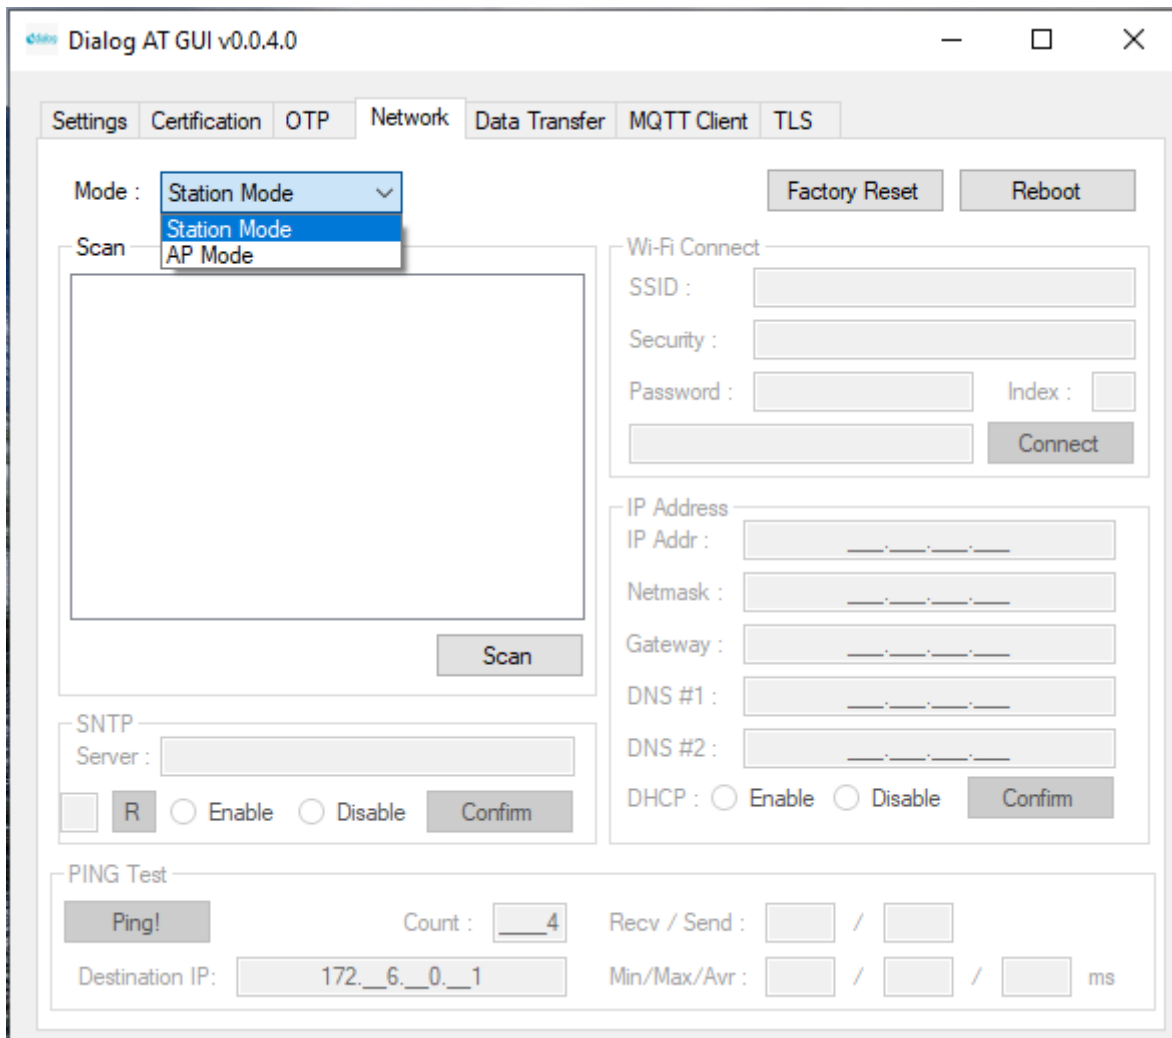

Figure 15: Setup Window - Station Mode
- o The network mode is changed. Next, DA16200 reboots and the station mode setup window opens. See Figure 15.